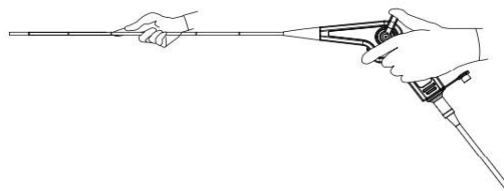

Fig 3.4
4. Holding the insertion tube gently with a hand, carefully run the fingertips over the entire length of the insertion tube in both directions (Fig 3.4). Confirm that there is no object stopping the hand or protrusion of metallic wire from the inside on and around the insertion tube and that the insertion tube is not abnormally rigid